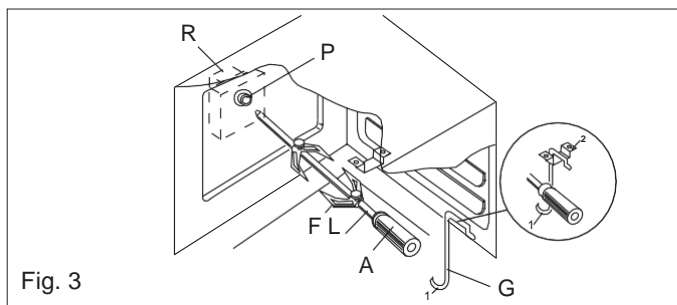

Fig. 3
- Put the chicken or part to be roasted on the spit **L** taking care to secure it between the two forks **F** and balance it, to avoid unnecessary strain on the gear motor **R** (fig. 3).
- Place the spit on the support **G**, after inserting its opposite end in the hole **P** of the motor **R** (fig. 3).
- To remove the spit, proceed in reverse order using knob **A** and a protective insulating woollen glove (fig. 3).